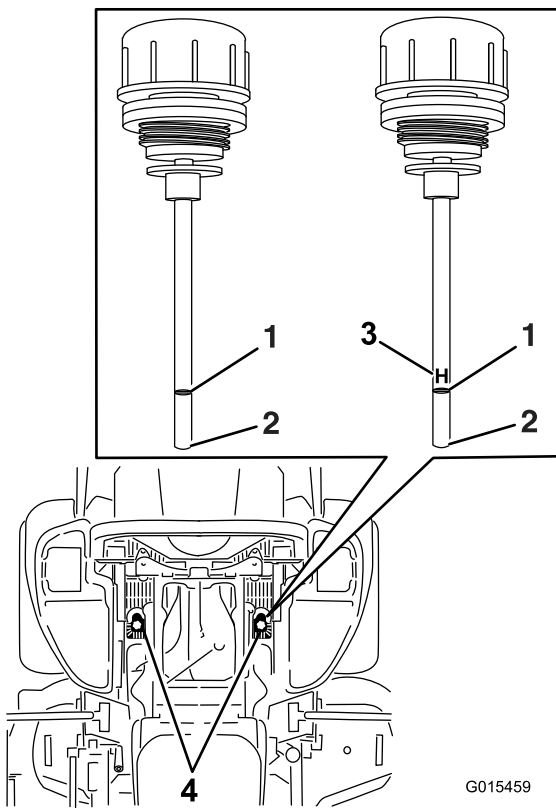

Figure 85
6. Clean the area around the dipsticks of hydraulic system reservoirs (Figure 85).
7. Remove one dipstick from the hydraulic reservoir (Figure 85).
9. Remove the dipstick and look at the end (Figure 85). If the oil level is at the add mark, slowly pour only enough oil into the hydraulic reservoir to raise the level to the full or **H** line.